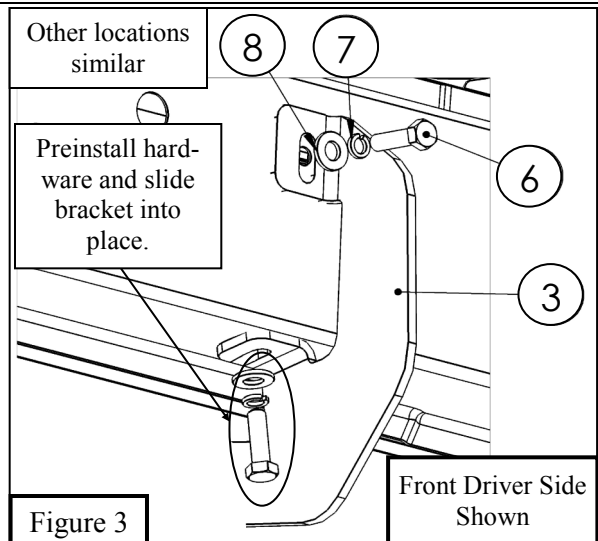

Figure 3
5. Partially install the M8 Hardware in the bottom of the rocker panel and then slide the Mounting Brackets (3 & 4) into place and install the remaining M8 Hardware. See **Figures 3 & 4**. *Note: The rear Mounting Location for Crew Cab has two options (See **Figure 4**). Double Cab only has one rear mounting location option.*